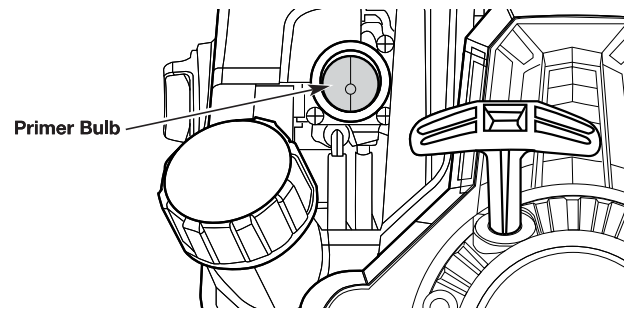

Fig. 9
3. Slowly press and release the primer bulb 10 times (Fig. 9).